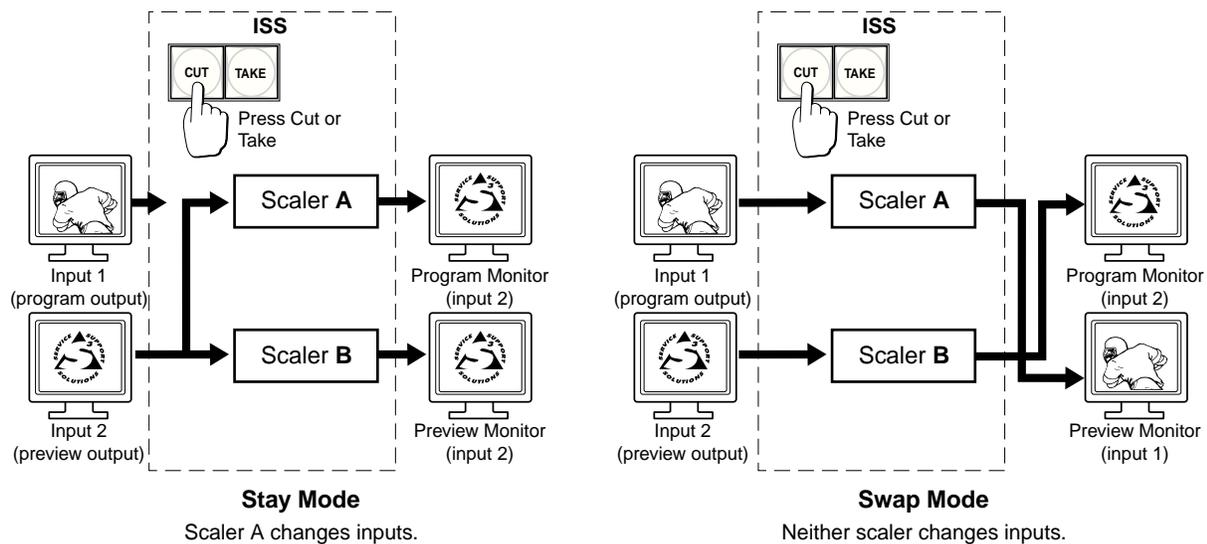

Figure 3-15 — Stay mode and swap mode
- **Stay mode** — For either a cut or take operation, the video and audio signals on the preview output are applied to the program output (figure 3-15) and also continue on the preview output until another input is selected.
- **Swap mode** — For either a cut or a take operation, the preview and program outputs are swapped (figure 3-15). The video and audio signals on the preview output are applied to the program output. The video and audio signals that had been applied to the program output are applied to the preview output.